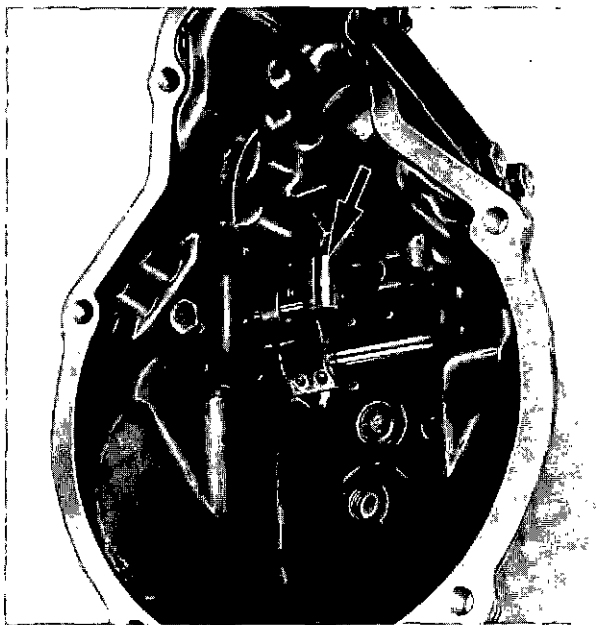
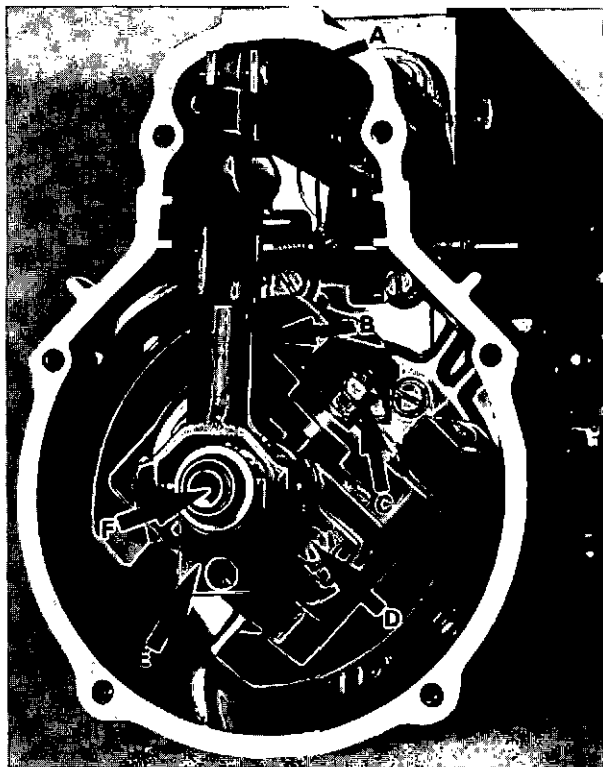
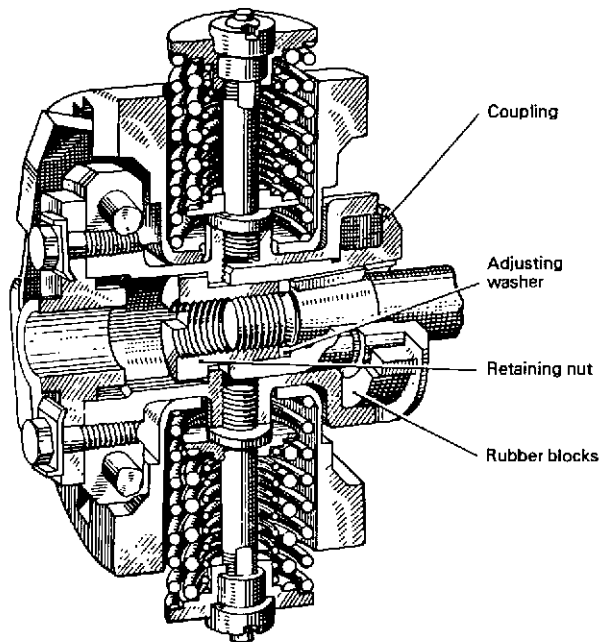

Fig. 41 Rear cover interior; sliding block arrowed.
Fig. 42 Governor with rear cover removed.
Fig. 49 Flyweight assembly - sectioned.
Remove the six retaining setscrews and carefully tap the rear cover with a soft mallet to break the joint. Position the control arm vertically and withdraw the cover after raising it to disengage the sliding block (arrowed, fig. 41) from the floating lever (fig. 42, Item 'B').
2. Again referring to fig. 42, remove link pin 'A' and tie the link fork out of the way. Pull back the slider 'E' with the floating lever 'B', turn lever 'B' clear of the rack extension, swing it back 90 degrees and lift it away, together with the slider. Unlock and unscrew the nuts 'C' from the coupling bolt and remove the bolt. The adjusting pin 'F' can then be withdrawn from the governor hub. Unscrew the two bolts 'D' and remove the guide bush.
2. Fit the guide bush, tighten its securing bolts (fig. 42, Item 'D') and bend up their locking tabs. A sectioned view of the governor assembled to this stage is shown in fig. 49.
- (b) Ensure that the sliding block is positioned with its long section uppermost (fig. 41) when it enters the slotted recess in the floating lever (fig. 42, Item 'B').